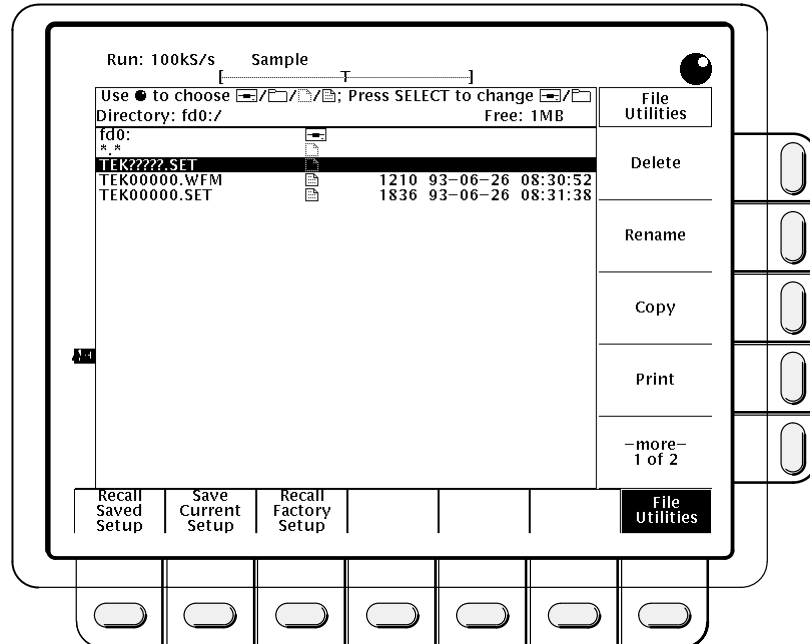

Figure 3-29: File Utilities
2. Press **File Utilities** in the main menu to bring up the File Utilities side menu. (see Figure 3-29).
*The amount of free space on the disk is shown in the upper right corner of the display. The digitizing oscilloscope shows the amount in K bytes. To convert the amount to bytes, you simply multiply the K bytes amount times 1024. Thus, the 711 kB shown in Figure 3-29 = 711 Kbytes * 1024 bytes/K = 728,064 bytes.*